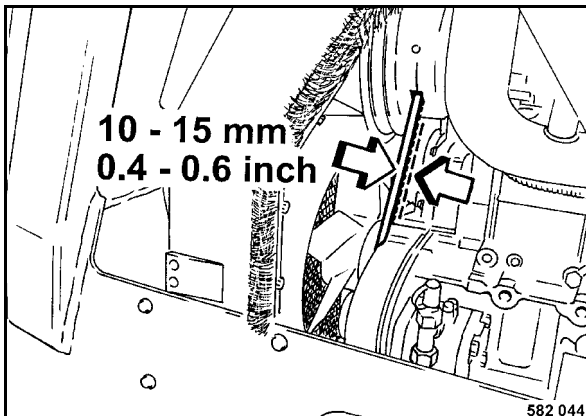

Fig. 77
- Check with thumb pressure whether the V-belt can be depressed more than 10 ... 15 mm between the V-belt pulleys (Fig. 77), retighten the V-belt if necessary.